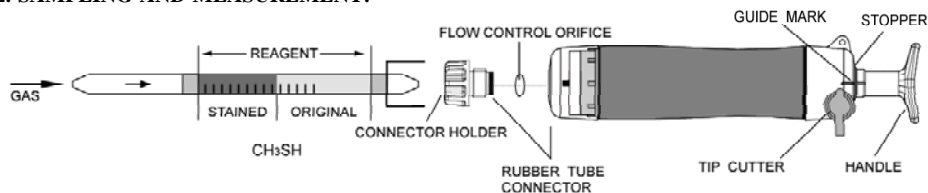

Fig.1
- ② Insert the detector tube into aspirating pump securely as shown in Fig.1. (Arrow mark shall point to the pump.)
- ③ Align the guide marks on the shaft and stopper of the aspirating pump.
- ④ Pull the pump handle at full stroke until it locks and wait for 3 minutes or until the completion of sampling is confirmed with the flow indicator of the pump (See descriptions about the flow indicator in the instructions of the pump).
- ⑤ On completion of sampling, read the scale at the maximum point of the stained layer.